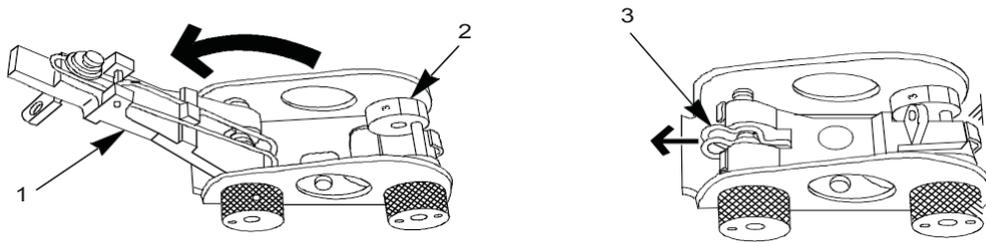

Figure 17. Lock Spring, Sight Leaf Assembly, Elevator Assembly.
26. Push lock spring (Figure 17, Item 1) to the front and lift sight leaf assembly (Figure 17, Item 2) up and away from elevator assembly (Figure 17, Item 3).